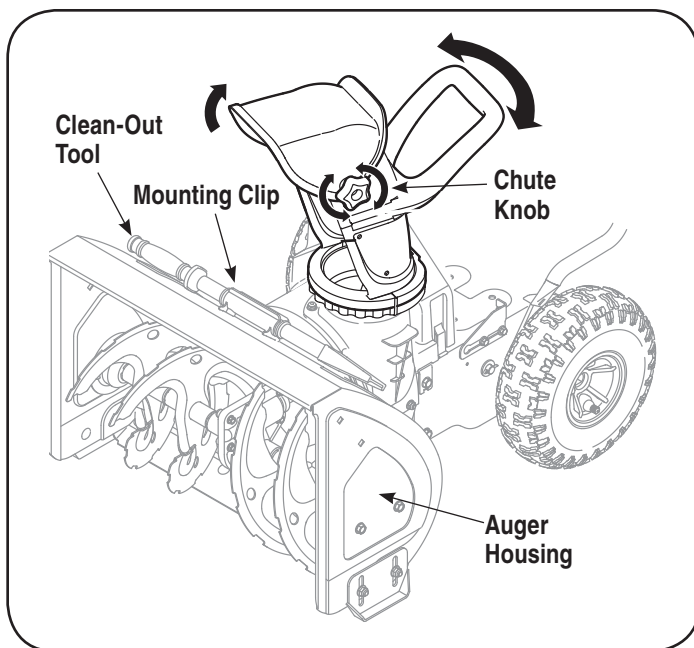

Figure 9
Rotate chute handle to desired operating position. See Figure 9.
5. Re-fasten the clean-out tool, with the handle on the right side of the housing, to the mounting clip on the auger housing. You can start operating your snow thrower now. See Figure 9.